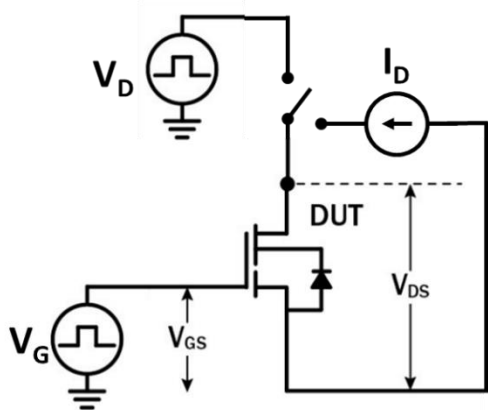

Figure 18. Dynamic $R_{DS(ON)eff}$ Test Circuit
- a. Dynamic $R_{DS(on)}$ value; see Figures 18 and 19 for conditions